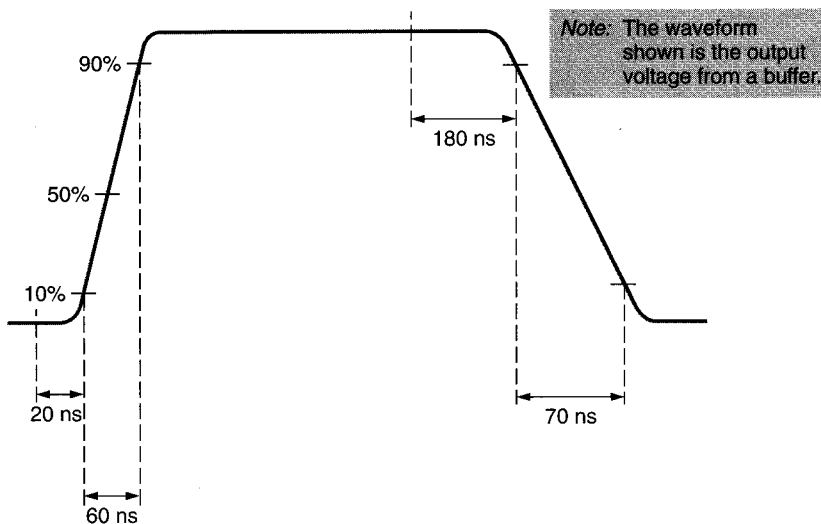

FIGURE 19.53
19. Determine the values of  $t_d$ ,  $t_r$ ,  $t_s$ , and  $t_f$  for the waveform in Figure 19.53.